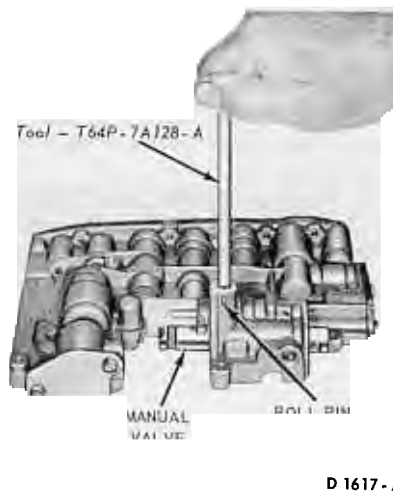

FIG. 38—Removing Manual Valve
4. Depress the manual valve detent spring with the tool shown in Fig. 38. Remove the retaining pin from the upper valve body. Remove the spring and detent plunger.